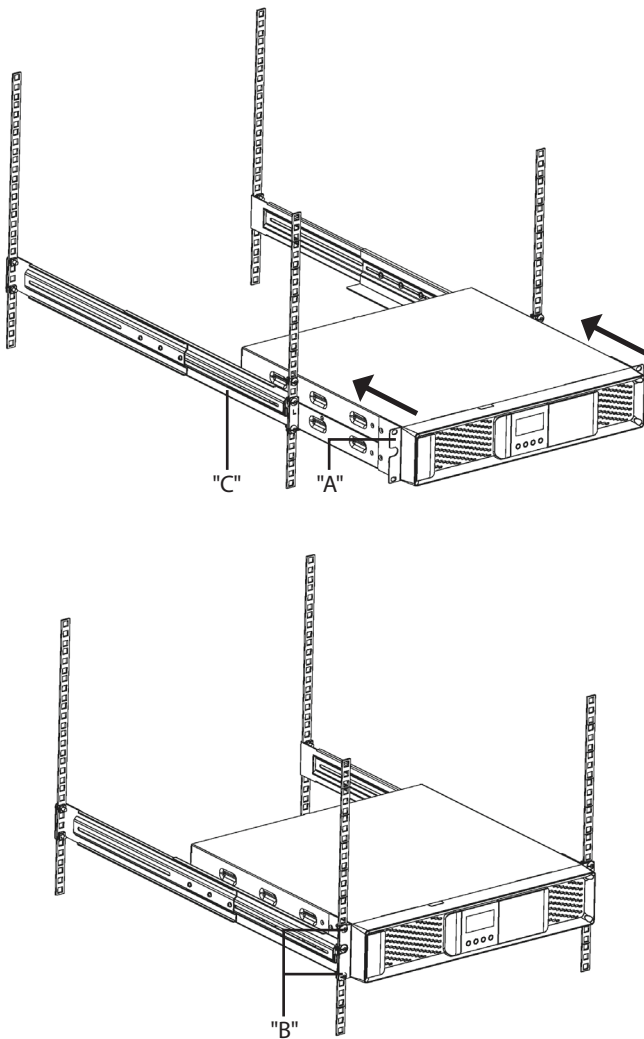

Fig. 8. 19" rack cabinet assembling.
- Proceed as follows (see figure 8):